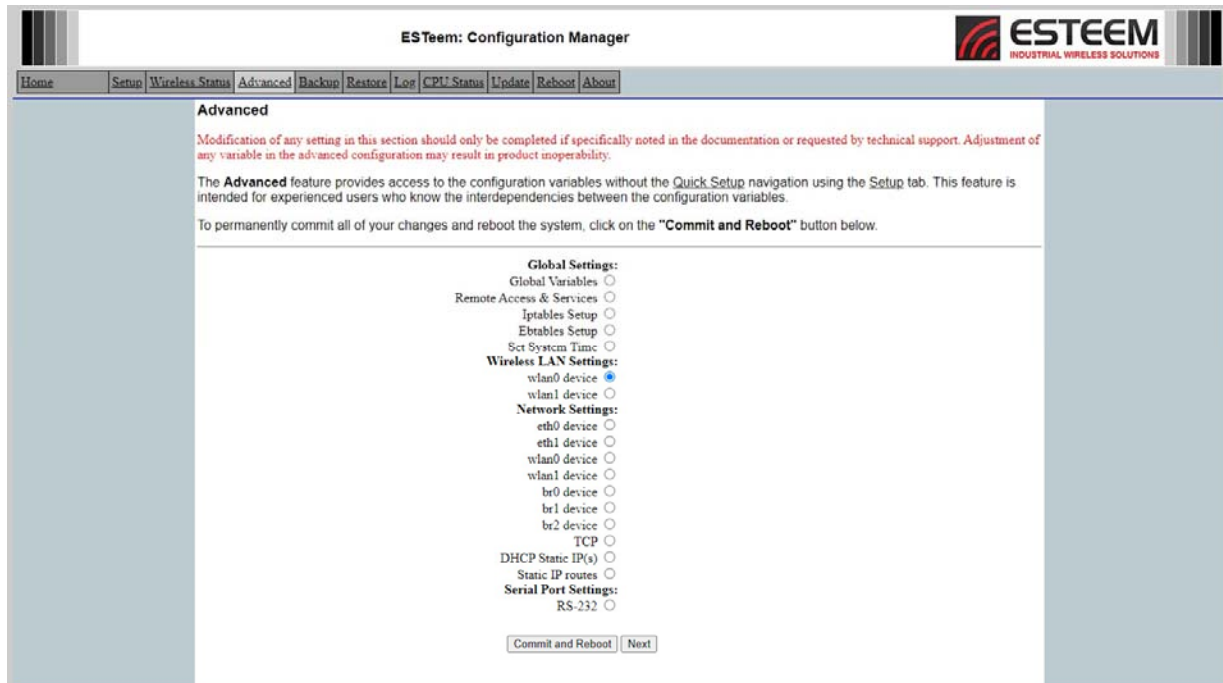

Figure 10: Advanced Screen
1. Access the ESTeem Web page using your computer’s Web Browser. Select **Advanced** Tab. From the **Wireless LAN Setting** section, select **WLAN0 Device** (Figure 10) and push the “Next” button.